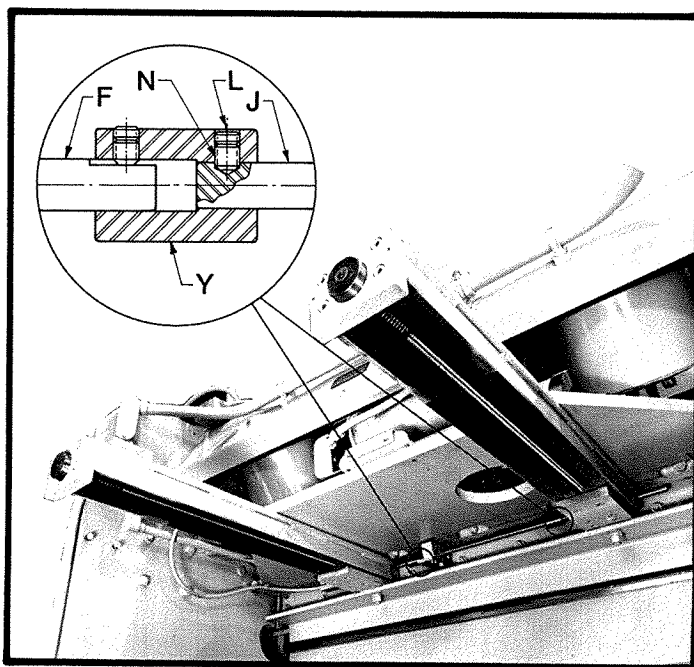

FIGURE 85
- F. There are two couplings "Y", Figure 85, that connect the two back gage guides by means of connecting shaft "F". It will be necessary to loosen the coupling "Y" from the guide of the farthest side, as found in Step "E". This will allow the guide screws to be rotated independently from each other.